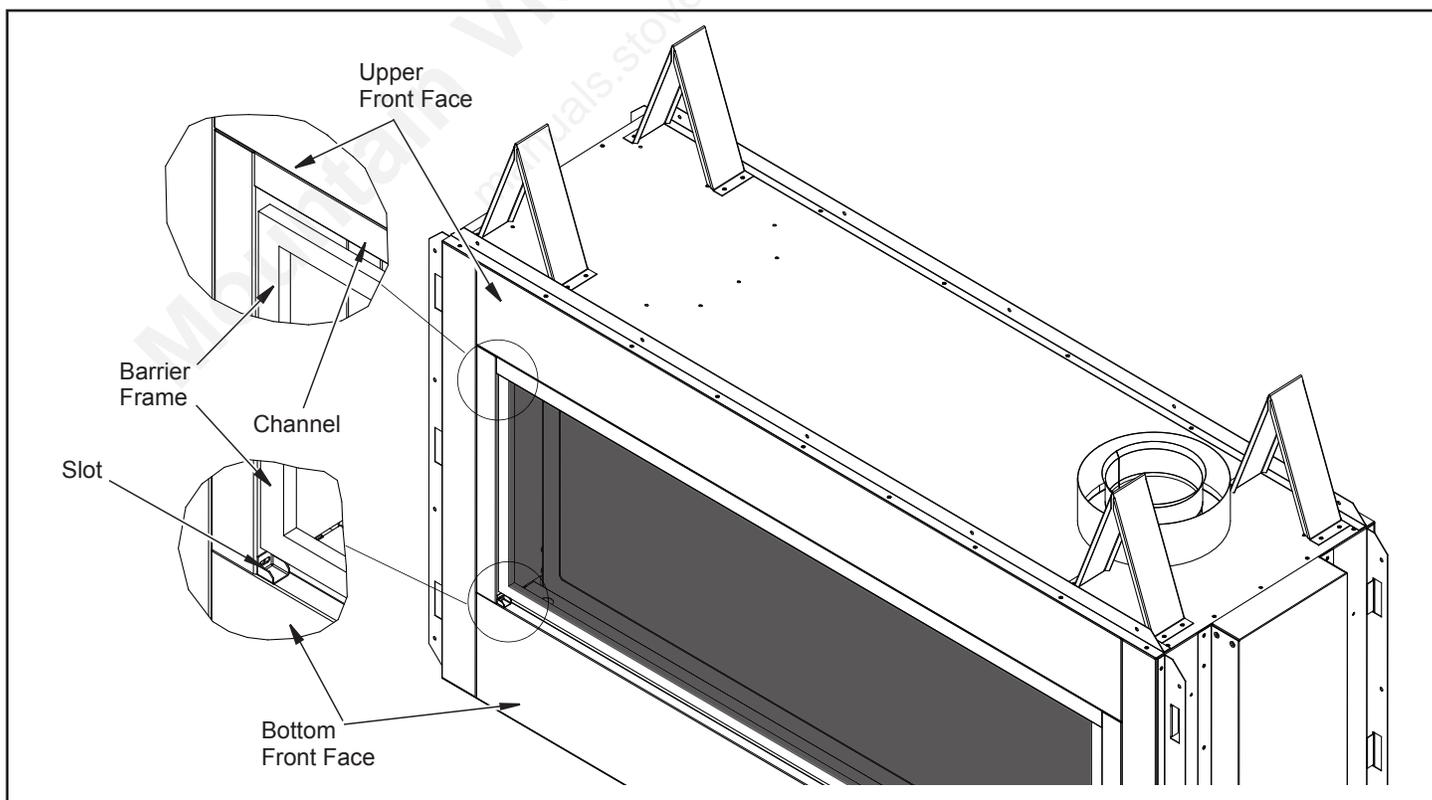

Figure 34 - Reinstalling barrier
1. Hold the barrier in front of the glass door and slide it up into the channel underneath the upper front face (see Figure 34).
2. Slide the barrier bottom down into the slots below the glass door, securing it in place (see Figure 34).